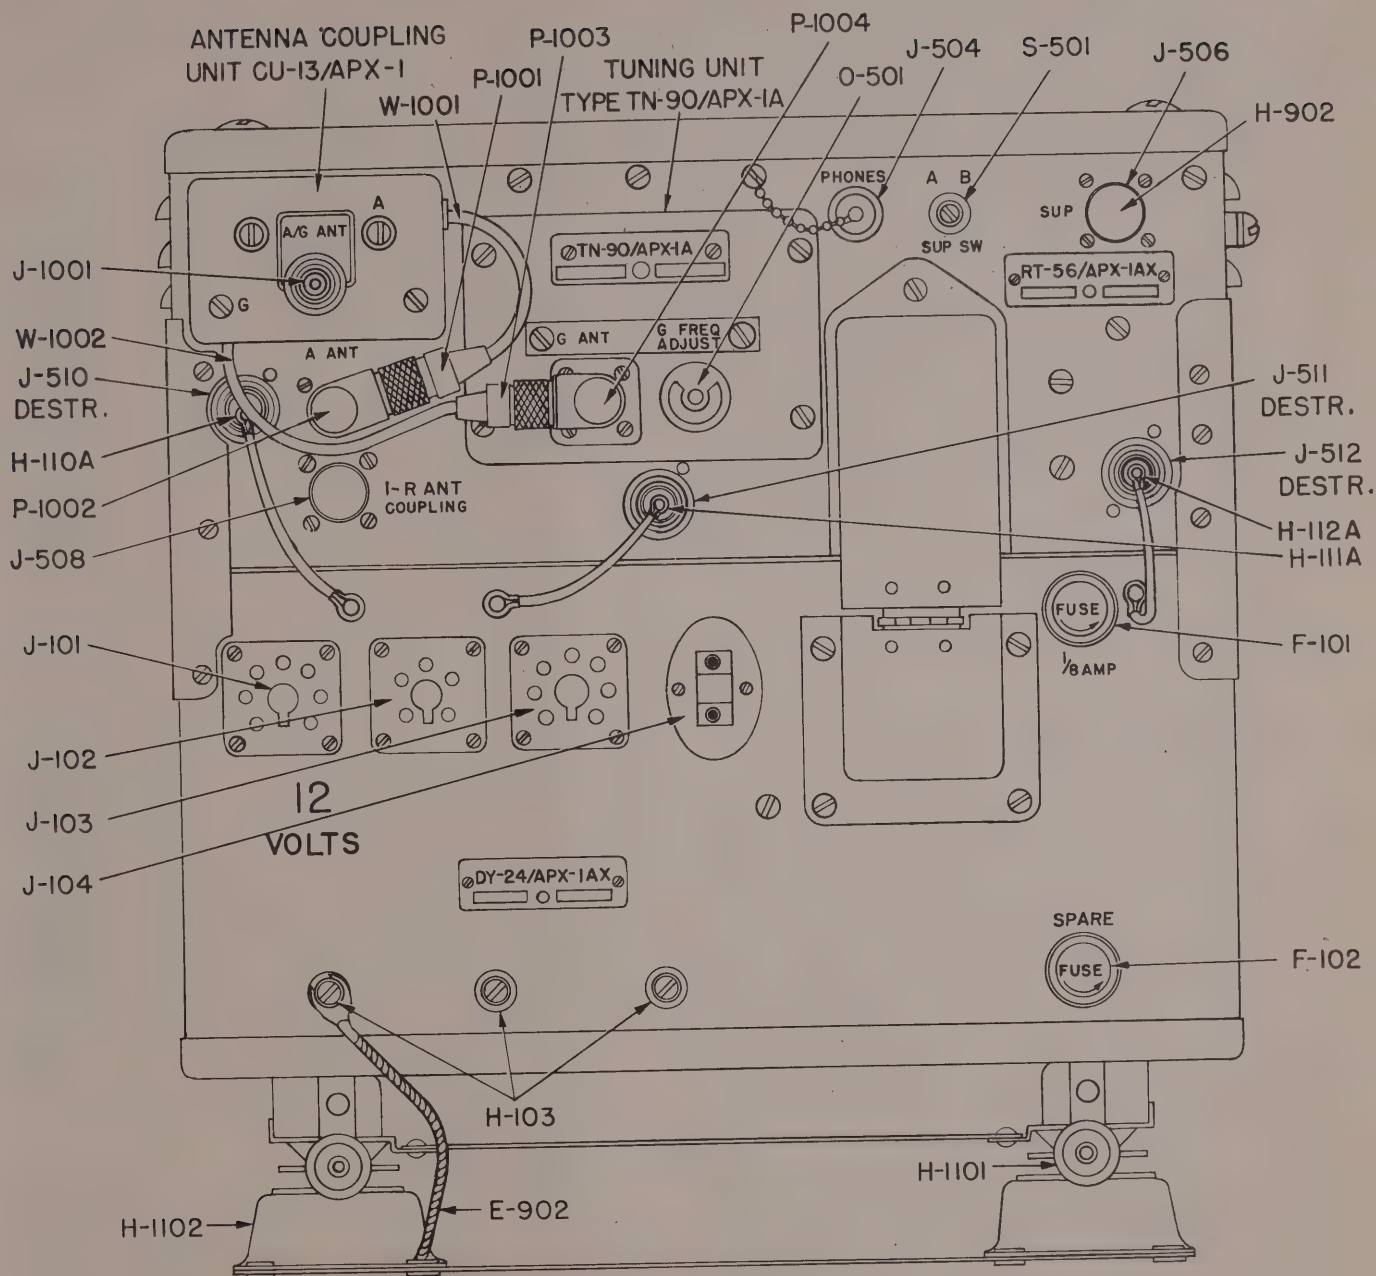

Figure 2-8. Receiver-Transmitter Unit Type RT-23A/APX-1X, Panel Controls
(Refer to Figure 2-8.)
c. **ADDITIONAL CONTROLS.**—There are two additional controls for the upper unit of the receiver-transmitter (not shown in Figure 2-8). These are accessible only thru holes, which are protected by dust covers, in the wrap-around of the receiver-trans-
(Refer to Figures 2-8, 2-9, and 3-1.)